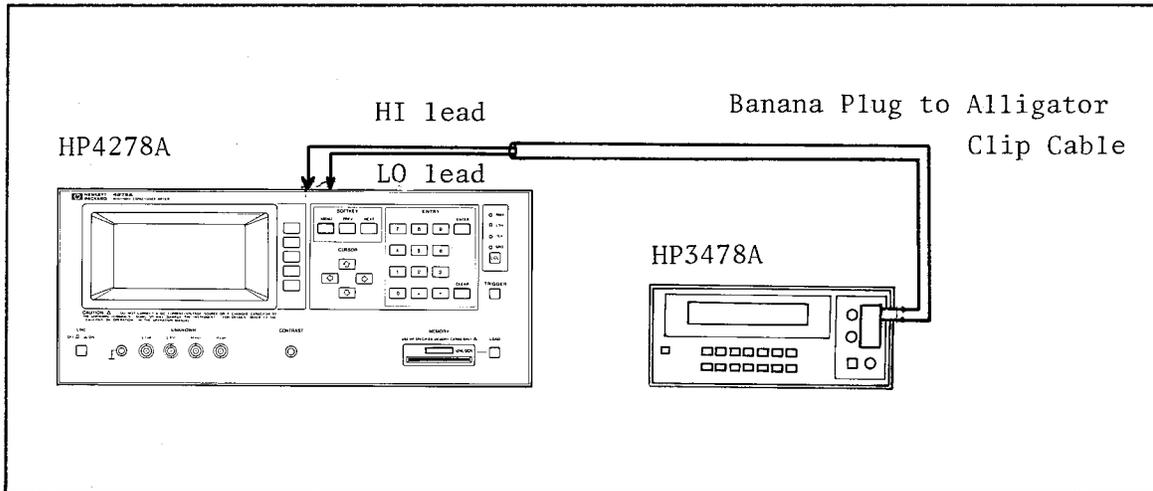

Figure 1-8. 1kHz Transducer Adjustment Setup
2. Connect the **LO** lead of the 3478A to A4TP2 and the **HI** lead to A4TP1 as shown in Figure 1-8.
1. Connect the **LO** lead of the 3478A to A4TP7 and the **HI** lead to A4TP3 as shown in Figure 1-8.
1. Connect the **LO** lead of the 3478A to A4TP7 and the **HI** lead to A4TP5 as Figure 1-8.